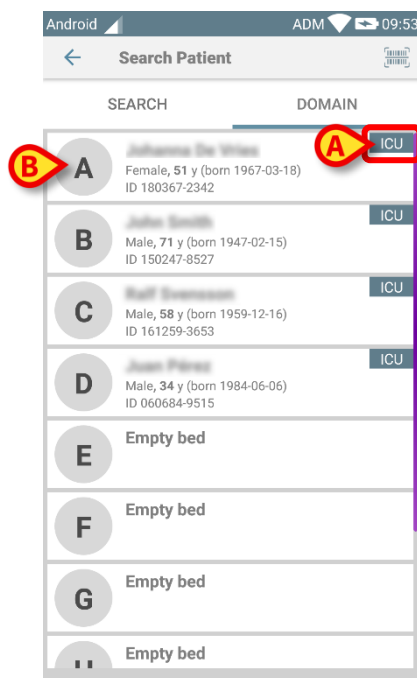
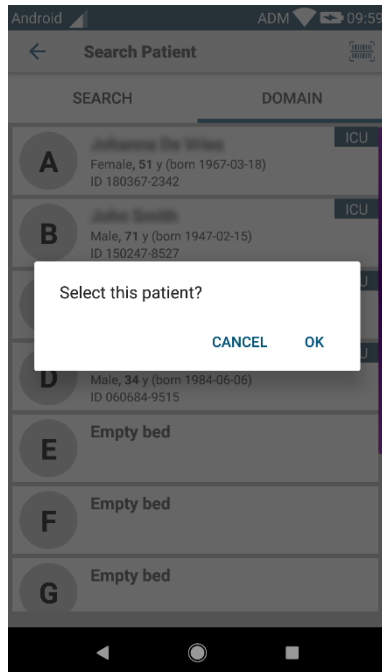

Fig 40
Fig 41
- Touch the “**DOMAIN**” tab. The following window shall appear (Fig 40)
In Fig 40 all the patients are listed, without regard to their domain. The label on the top right corner of each tile highlights the domain of the patients (Fig 40 **A**). One single patient can be selected by touching the tile corresponding to his/her bed. Just for example:
- Touch the tile indicated in Fig 40 **B**. User confirmation is required (Fig 41).